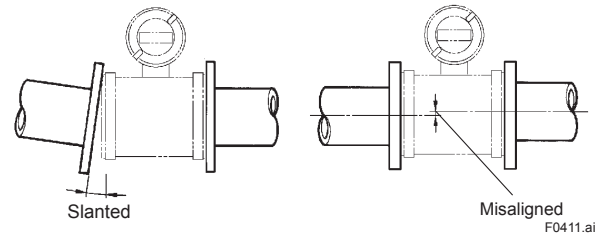

Figure 4.2.2 Slanted and Misaligned Flowmeter Piping
- (1) Correct any misaligned or slanted piping, and any gaps that may exist between mounting flanges before installing the flowmeter (refer to Figure 4.2.2).
- (2) Inside a newly installed pipeline, there may be some foreign substances such as residue from welding or wood chips. Remove them by flushing the piping before mounting the flowmeter. This prevents the lining from being damaged, as well as the occurrence of erroneous measured signals resulting from foreign substances passing through the flowtube during measurement.